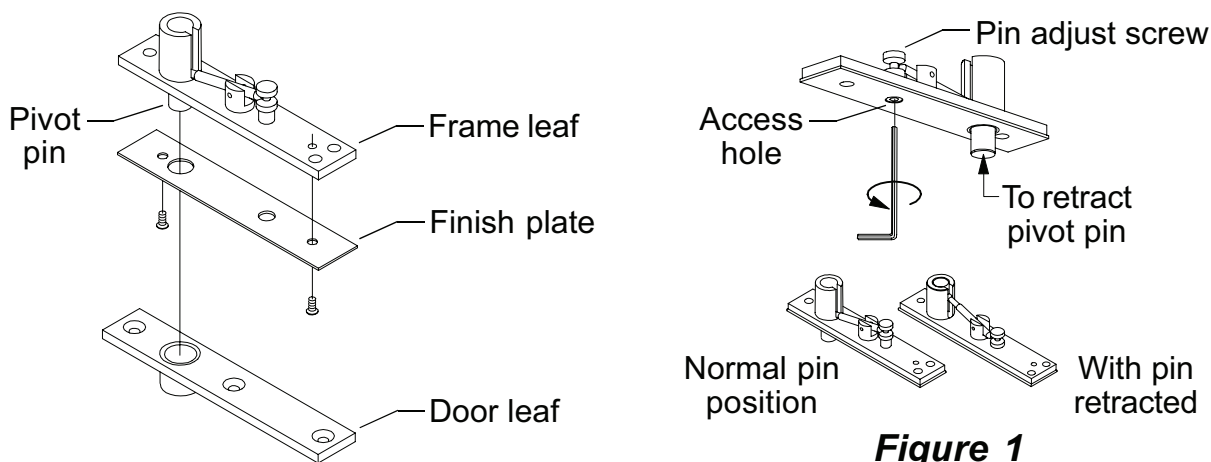

Figure 1
3. The pin of top pivot set should be retracted now for ease of installation. Insert 5/32" Allen wrench through access hole and into pin adjustment screw. Rotate Allen wrench counterclockwise until pivot pin is completely retracted (Figure 1).
5. With door in open position (about 90° to jamb), carefully fit door onto bottom pivot. Refer to bottom pivot instruction sheet. With door in vertical position, **align top pivot leafs in door and jamb.** With pivot leafs aligned, insert 5/32" Allen wrench through access hole into pin adjustment screw. Rotate Allen wrench clockwise until pin adjust screw seats and pivot pin is in normal position (Figure 1). The door should now swing freely. If it does not, double check templating dimensions.